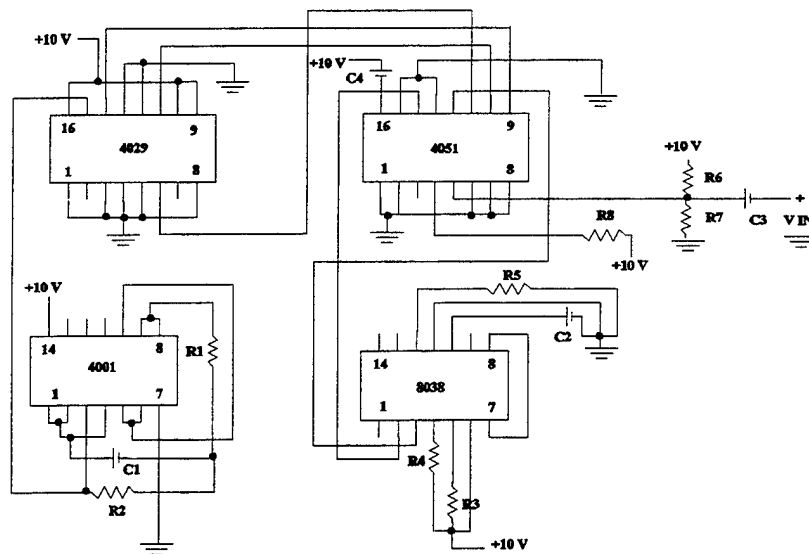

Figure 2
a) Construct the TDM circuit of Figure 2. The CD4051 multiplexor in this circuit provides the commutator function. The commutator combines four signals into a TDM signal. The TDM inputs are four signals: triangle wave at pin 14, two sine waves at pins 12 and 5, and a DC voltage at pin 4. Apply a 5 Vpp, 30 Hz sine wave to V_{in} . Q: Using